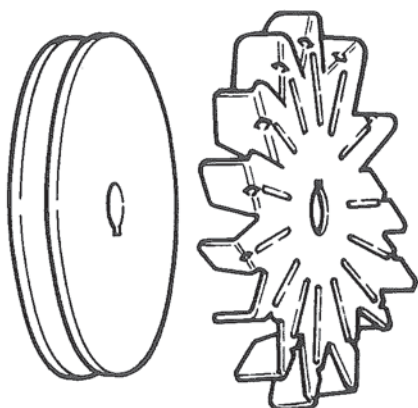

Figure 20. Installing Fan and Pulley
5. Install pulley spacer, key, fan, pulley lockwasher, nut and mount pulley in vise with protective jaws. Figure 20. Torque nut to 35-50 ft. lbs. (4.8-6.9 kg/m). Spin rotor by hand to make sure it spins freely.